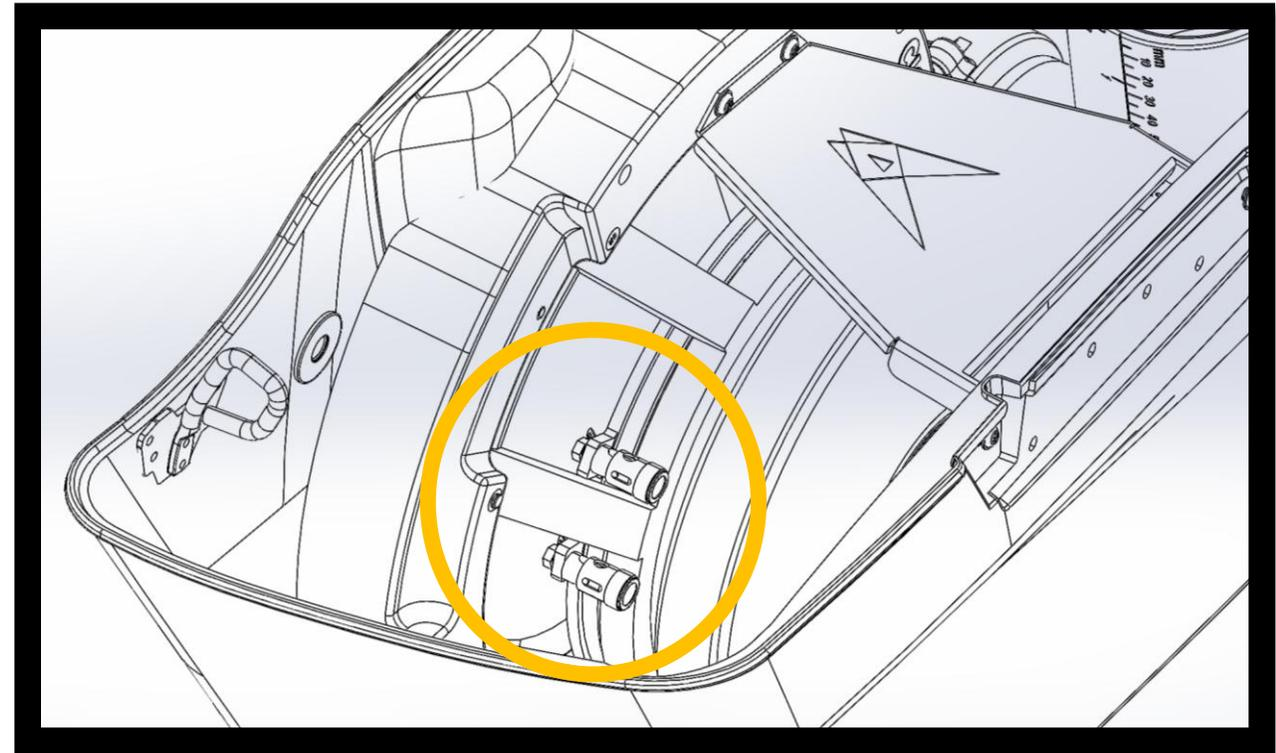

Figure 11 – CMB10.S4 Speaker Terminals
- Install mid-bass orienting speaker terminals facing forward towards the front of the bag, as shown in Figure 11.
- Install speaker using (4) M5 x 15mm screws into locations, see Figure 11.